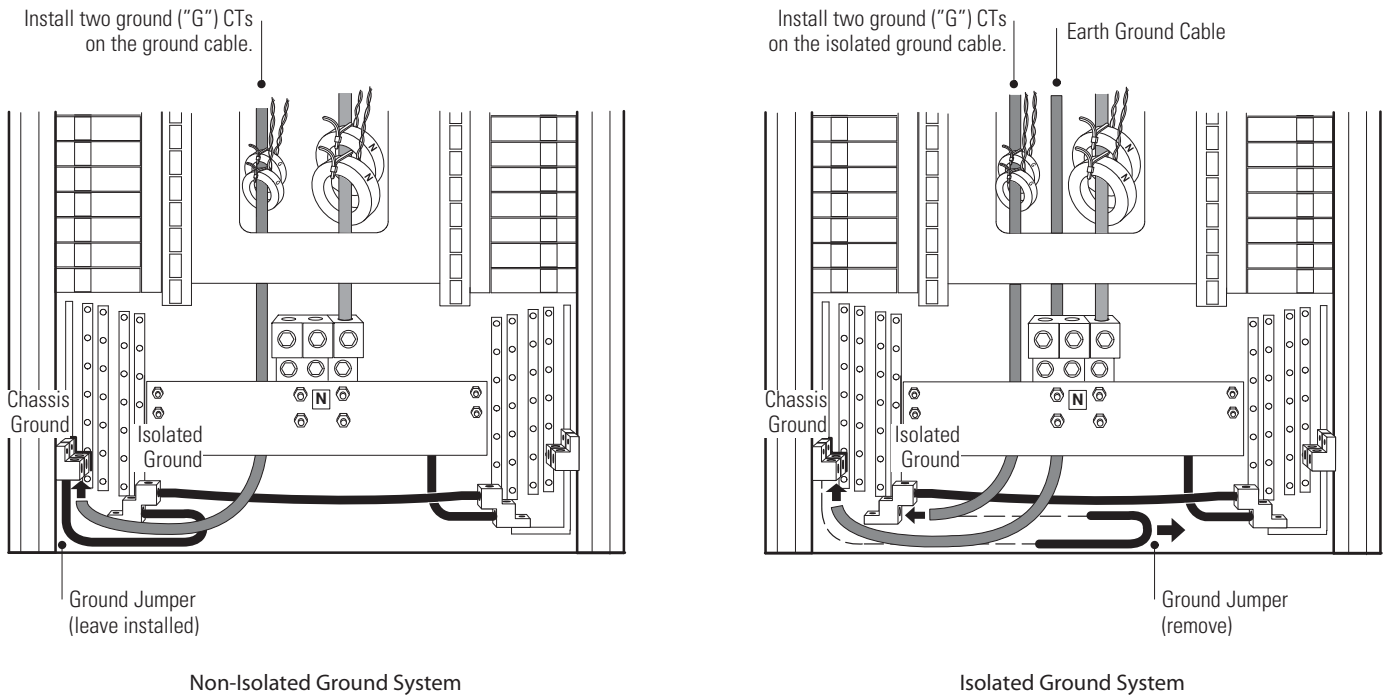

Figure 12. Installing the Ground System (Single 800A Main Input Lug, Single 400A Main Input Breaker, and Single 600A Main Input Breaker)
8. **Single 800A Main Input Lug, Single 400A Main Input Breaker, and Single 600A Main Input Breaker configurations.** The cabinet has a ground jumper installed from the chassis ground to the isolated ground busbar. Adjust the installation for the required ground system (see Figure 12, and Table 2, and Table 3 on page 12):
NOTE Figure 12 shows top entry wiring, one panelboard, optional neutral CTs for measured neutral current, and front access installation.